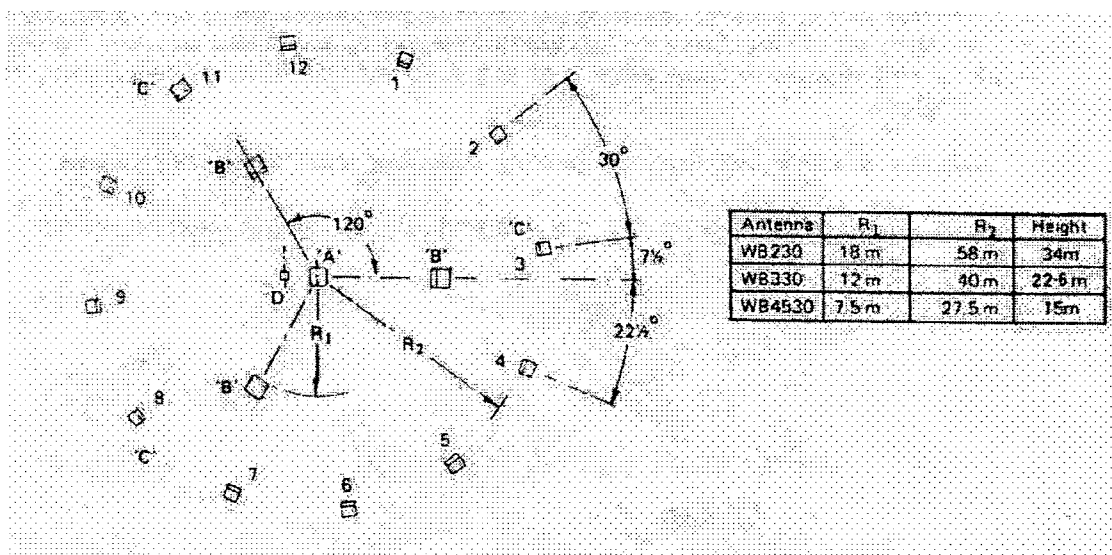

FIGURE 1 – Foundations layout
The site should be carefully marked out in accordance with the dimensions given in Fig. 1. It should be as flat and level as possible, and be cleared of all scrub, bushes and trees to minimise hazards to personnel and equipment.
Step 10 - Fit the other 20 antenna base fastening bracket (1-28) to the insulator top unit, by use of bolts (1-35), washers (1-27 & 1-36), and nuts (1-26). Loosely bolt a line tap (1-74) to each bracket. Note that no base fastening brackets are fitted to the holes in the insulator top unit between foundation Block C No. 3 & 4, 7 & 8, 11 & 12 (see Fig. 1).